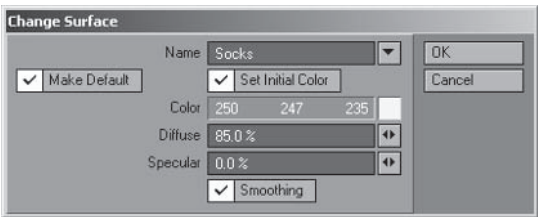

Figure 5.5-40. Socks surface.
- Create a new surface called **Socks**, using the settings in Figure 5.5-40.